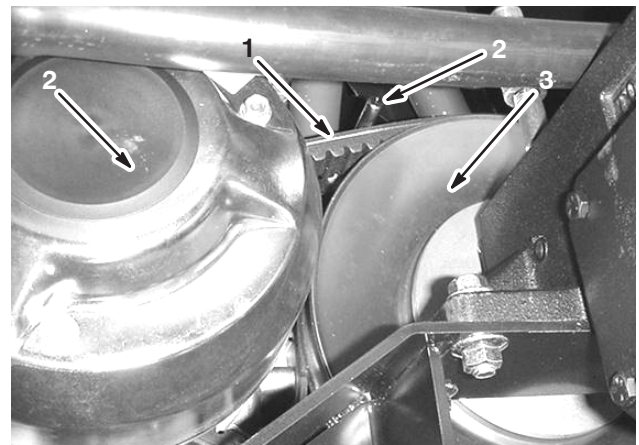

Figure 49
1. Loosen the 2 belt guides near the secondary clutch (Fig. 49).
2. Rotate and route the belt over the secondary clutch (Fig. 49).
3. Remove the belt from the primary clutch (Fig. 49).
4. Place the new belt over the primary clutch (Fig. 49).
5. Rotate and install it over the secondary clutch (Fig. 49).